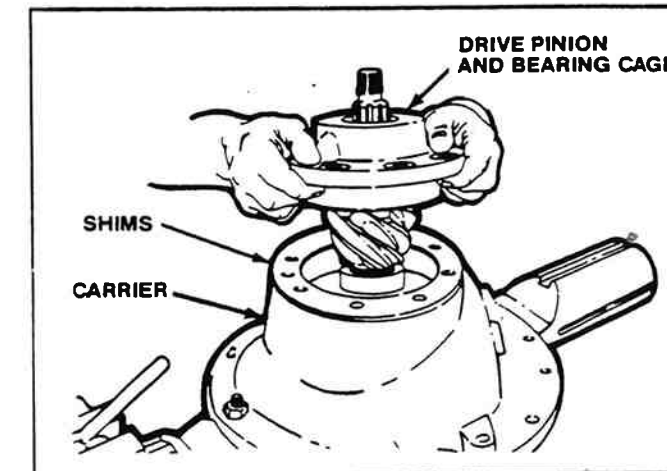

Figure 2-57. Installing Drive Pinion And Cage.
- Install the drive pinion and bearing cage into the carrier. If necessary, use a rubber, plastic or leather mallet to hit the assembly into position (Figure 2-57).